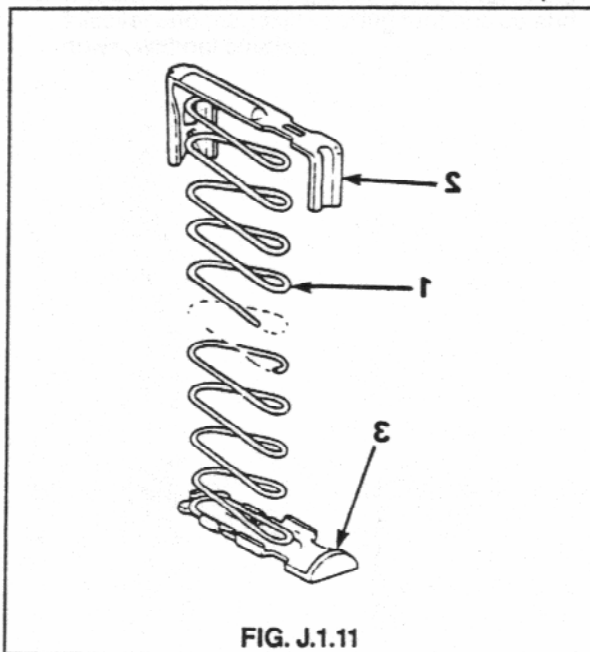

FIG. J.1.11
9. When assembling the magazine follower to the spring ensure that it is fitted the right way around relative to the spring platform. See Fig. J.1.11.